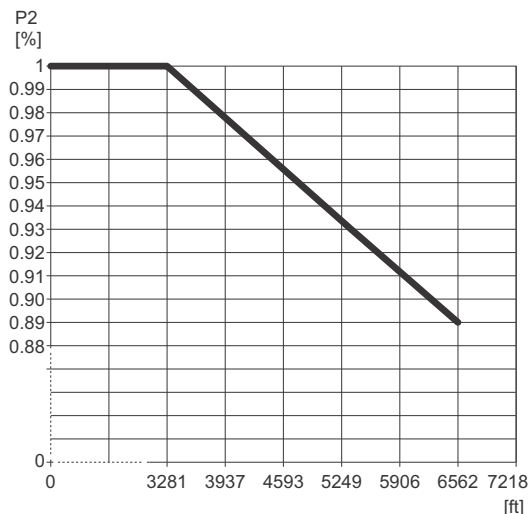

Fig. 49 Derating of motor output power (P2) in relation to altitude above sea level
- Motors installed more than 3280 ft (1000 m) above sea level must not be fully loaded due to the low density and consequent low cooling effect of the air. See fig. 49.